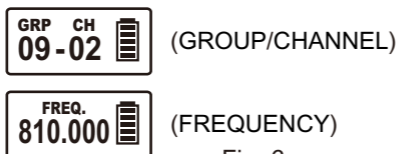

Fig. 6
3. Under GROUP / CHANNEL and FREQUENCY modes, it display message in accordance with receiver, Fig. 6.